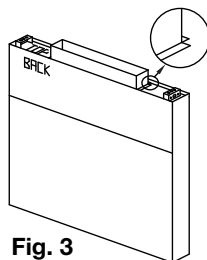

Fig. 3
4. Place the duct collar(s) over the opening(s), fastening with screws or tack-welds every 4 to 6 in. (10.16 to 15.24 cm). (Fig. 3)